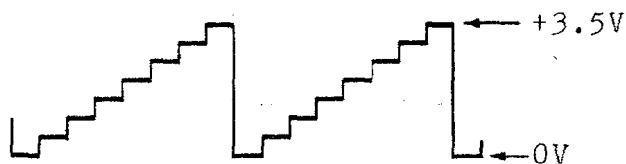

Figure-2
- o Adjust NPN STEP ADJ (VR102) for amplitude of 3.5Vp-p with seven steps as shown in Figure-2.